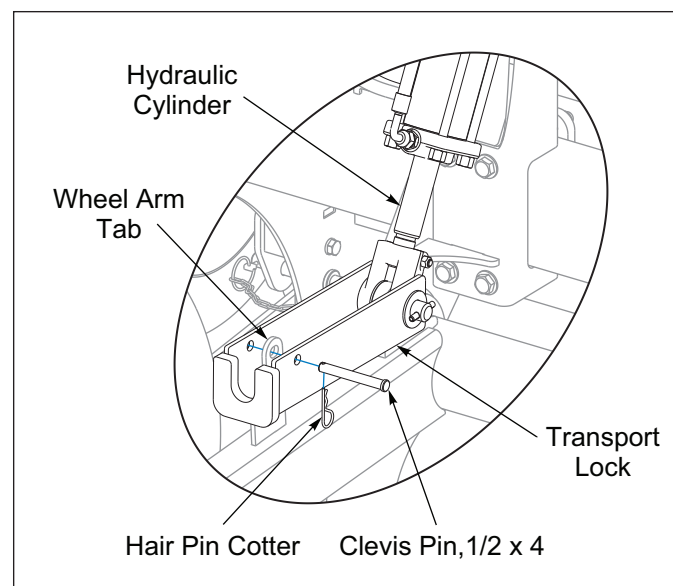

Figure 3-5: Transport Lock Stored
5. Disengage each Transport Lock so the Transport Lock rests on the Wheel Arm. Secure with Clevis Pin and Hair Pin Cotter into the Wheel Arm Tab. **See Figure 3-5.**
1. Raise the Till 'N Seed fully to extend the Hydraulic Lift Cylinders and rotate the Transport Locks to the stored position. Secure with the Clevis Pins and Hair Pin Cotters. **See Figure 3-5.** Lower the Till 'N Seed, relieve pressure from Hydraulic Hoses.
1. Raise the Till 'N Seed fully to extend the Hydraulic Lift Cylinders and rotate the Transport Locks to the locked position. Secure with the Clevis Pins and Hair Pin Cotters. **See Figure 3-5.**
3. If the Transport Locks are engaged, raise the Till 'N Seed and disengage the Transport Locks. **See Figure 3-5.**